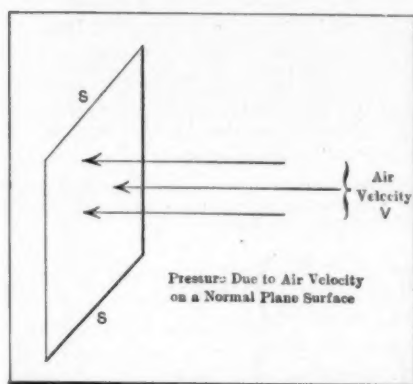

Fig. 1—Diagram used to make a point in pressure characteristics
*By "relative" velocity is meant the sum of opposing velocities (or the difference of velocities in the same direction) of moving plane and air. Thus, in Fig. 1, if the air moves toward the left with the velocity V_1 , while the plane ss moves toward the right with the independent velocity V_2 , the relative velocity in Equation I is $V = V_1 + V_2$. If both plane and air move toward the left, it is $V = V_1 - V_2$ or $V_2 - V_1$, as the case may be.